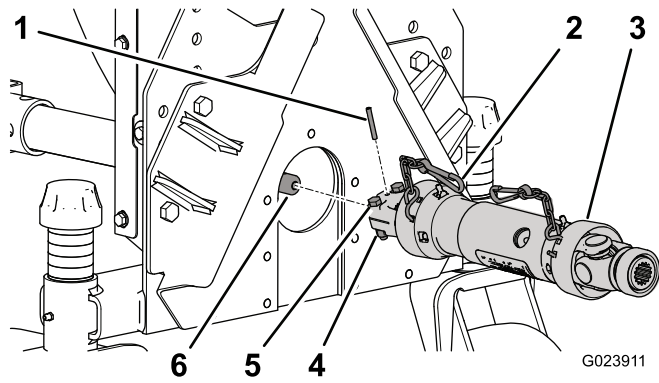

Figure 9
- Secure them with a roll pin (Figure 9).
- Secure the drive shaft to the gear box shaft with two 5/16 x 1-3/4 inch bolts and 5/16 inch lock nuts (Figure 9).
- Secure the safety chain to blower frame (Figure 9).